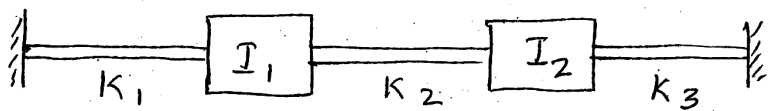

Fig 2 , Q.7
- 7. For the system shown in the Fig. 2 Q7 determine the natural frequency and mode shapes if $I_1 = I_2 = I$, $K_1 = K_3 = K$ and $K_2 = 2K$. 20